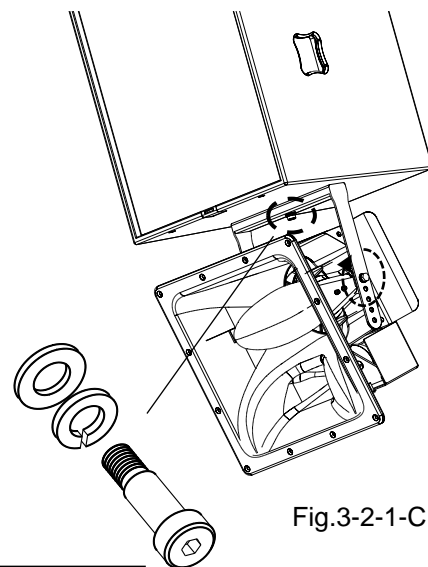

Fig.3-2-1-C
- (2) Once the desired angle of the XY-2 is set, tighten the socket head bolts on the side of yoke to lock the position in place at 15N·m torque. (Fig.3-2-1-C)